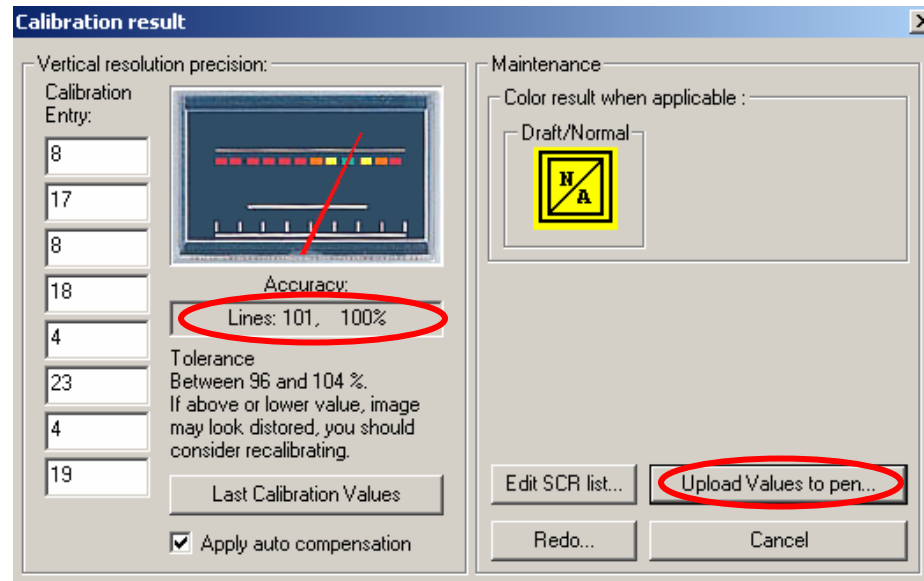

Fig 6
8. The **Calibration result** dialog window will appear. You should see the roller calibration values to the left. If the accuracy is within 96-104%, you have successfully calibrated the rollers! (Fig 6).